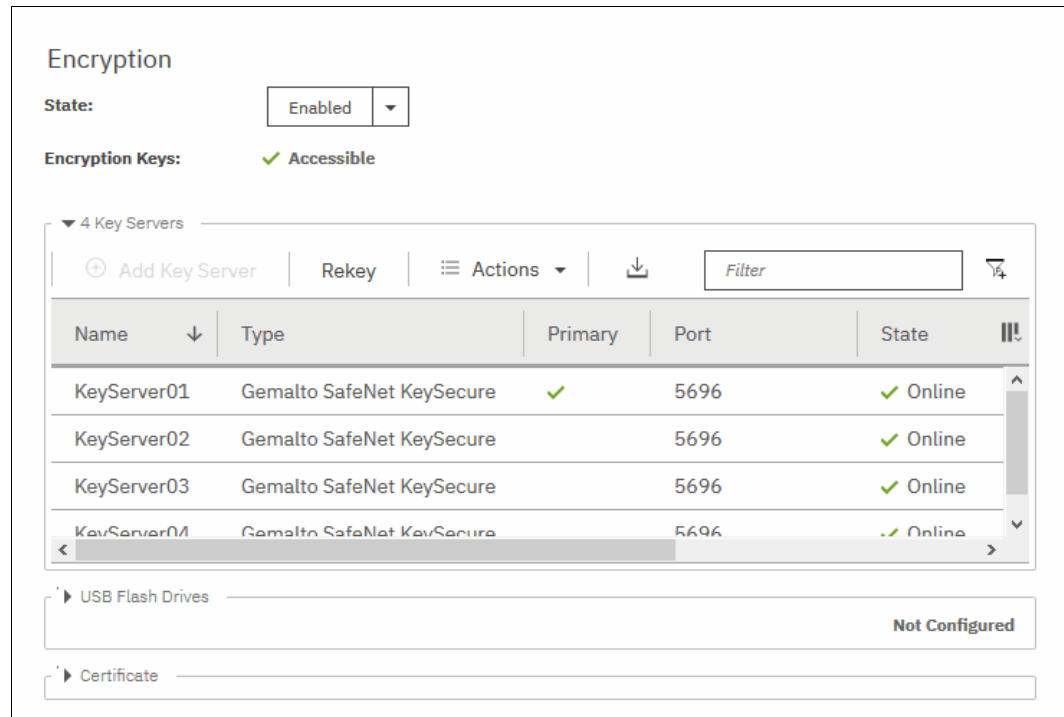

Figure 13-49 Encryption enabled with 4 SafeNet KeySecure key servers
- Confirm that encryption is enabled by clicking **Settings** → **Security** → **Encryption**, as shown in Figure 13-49. Check whether the four servers are shown as online, which indicate that all four SafeNet KeySecure servers are detected as available by the system.